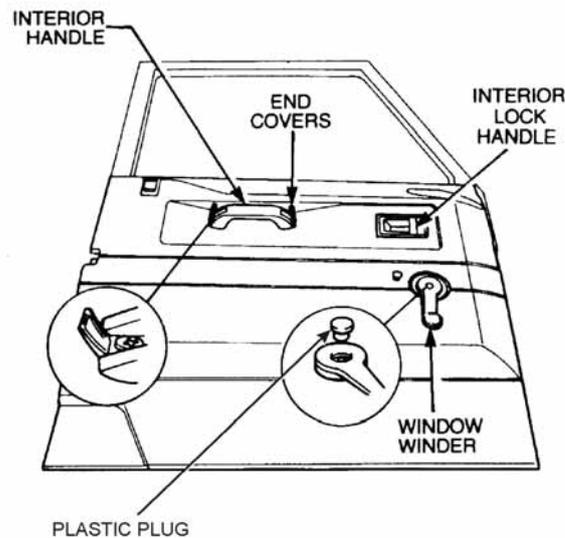

Figure 10 Window Winder Handle Removal
- Prise the plastic cover (refer Figure 10) from the window winder handle.
- Using a small screwdriver, prise the end covers from the interior handle (refer Figure 10).